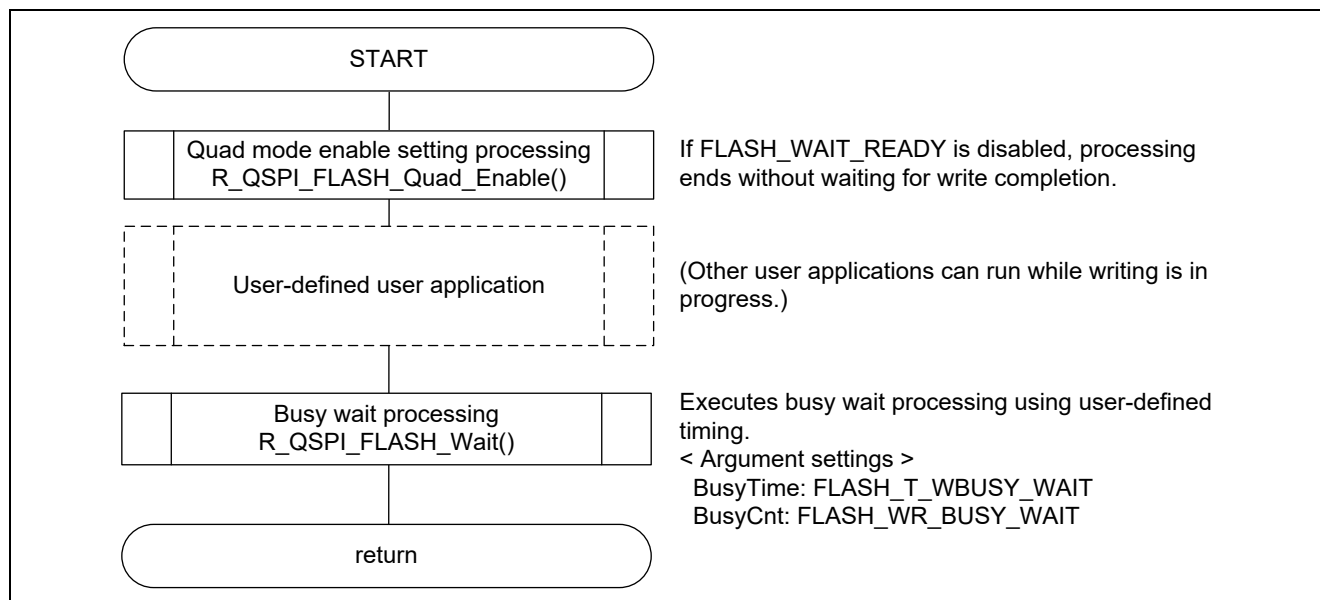

Figure 5.17 Waiting for Quad Mode Enable Setting to Finish Using R_QSPI_FLASH_Wait()
Description	• Sets the quad enable (QE) bit in the status register to 1 to enable quad mode. • When using quad mode, call this function beforehand. • After processing finishes, read the status register to confirm the setting of the QE bit. • The quad enable (QE) bit is non-volatile. To disable quad mode after it has been enabled once, run quad mode disable setting processing. • There are two methods of waiting for the write to finish. These are shown below. Note that the next processing (write, read, erase, etc.) should be run after confirming that the write has finished. < Using this user API to wait for the write to finish > Enable FLASH_WAIT_READY in r_qspi_flash_mx25l.h. < Not using this user API to wait for the write to finish > Disable FLASH_WAIT_READY in r_qspi_flash_mx25l.h, and call R_QSPI_FLASH_Wait() after processing by this user API has finished. This processing method allows you to perform write-end wait confirmation at any time you wish. Refer to figure 5.17 for instructions.